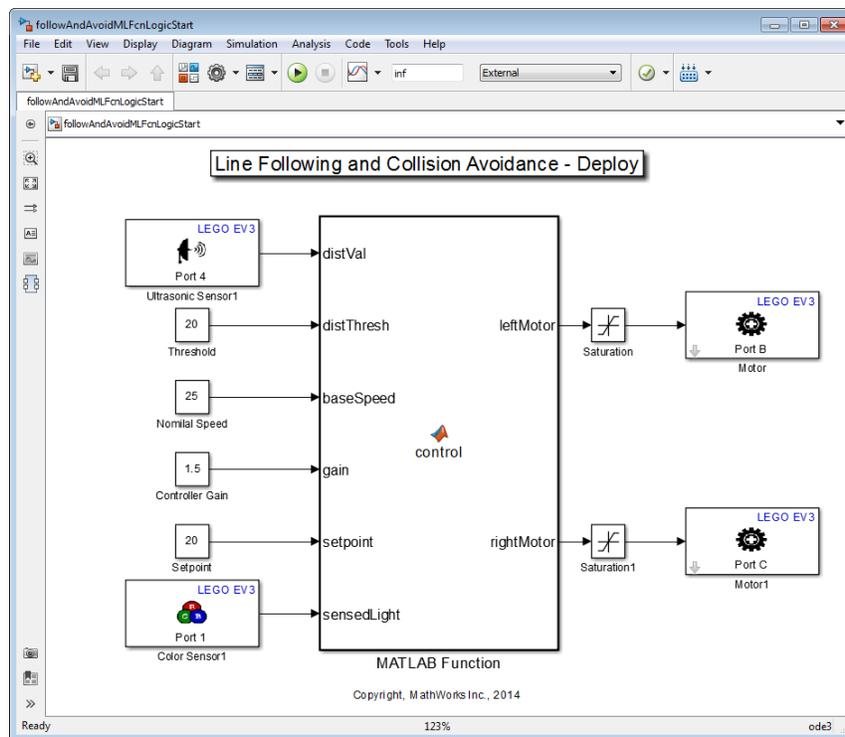

Figure 27: MATLAB Function block in Simulink model
1. Open the supplied Prj2/Work/followAndAvoidBlocksDeployMLFcnEvent\_Start.slx. See Figure 27.